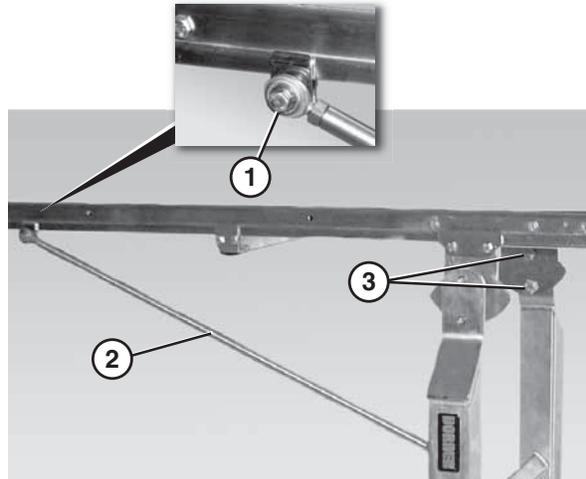

Figure 19
1. Loosen the screw (Figure 19, item 1) on the diagonal brace (Figure 19, item 2), if applicable.
2. Loosen the bracket screws (Figure 19, item 3) on both sides of the stand.
4. Tighten the bracket screws (Figure 19, item 3) to 50 ft•lb (72 N•m)